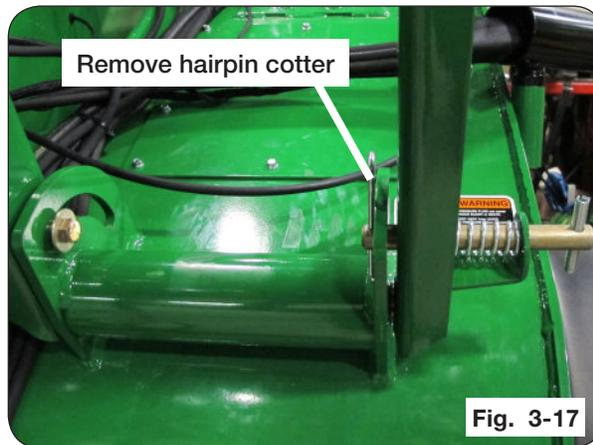
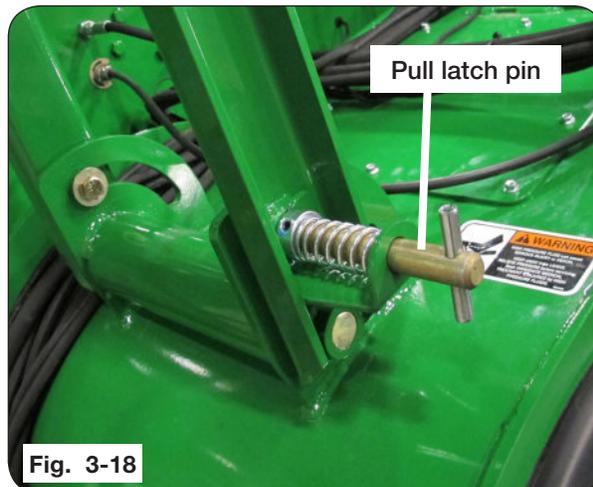

Fig. 3-17
Fig. 3-18
3. Remove hairpin cotter from latch pin (Fig. 3-17) and pull latch pin to disengage (Fig. 3-18). Raise auger rest stand up to field position and release latch pin. Make sure the pin is engaged in the field position hole and re-install hairpin removed earlier in this step.